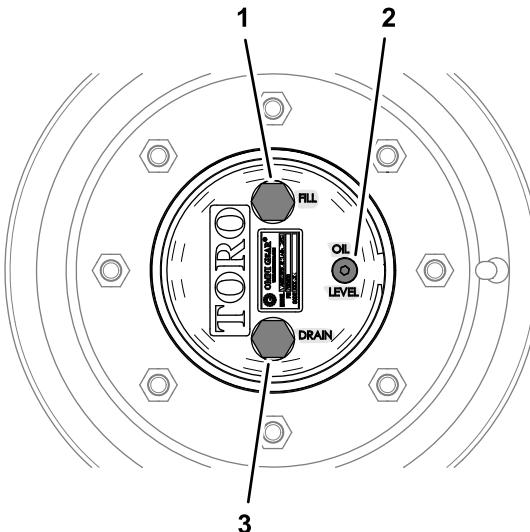

Figure 91
1. With the machine on a level surface, position a wheel so that the fill plug is at the highest (12 o'clock) position and the drain plug is at the lowest (6 o'clock) position (Figure 91).
1. With the machine on a level surface, position a wheel so that the fill plug is at the highest (12 o'clock) position and the drain plug is at the lowest (6 o'clock) position; refer to Figure 91 in **Checking the Planetary-Gear-Drive Lubricant** (page 67).